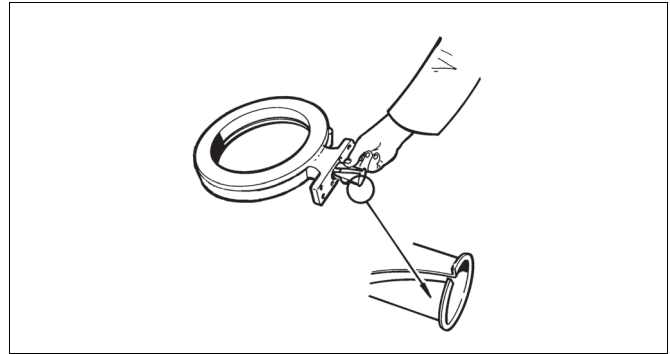

Fig. 15 Mounting the standard bearings
- Mount the bearings into the body (see Fig. 15).